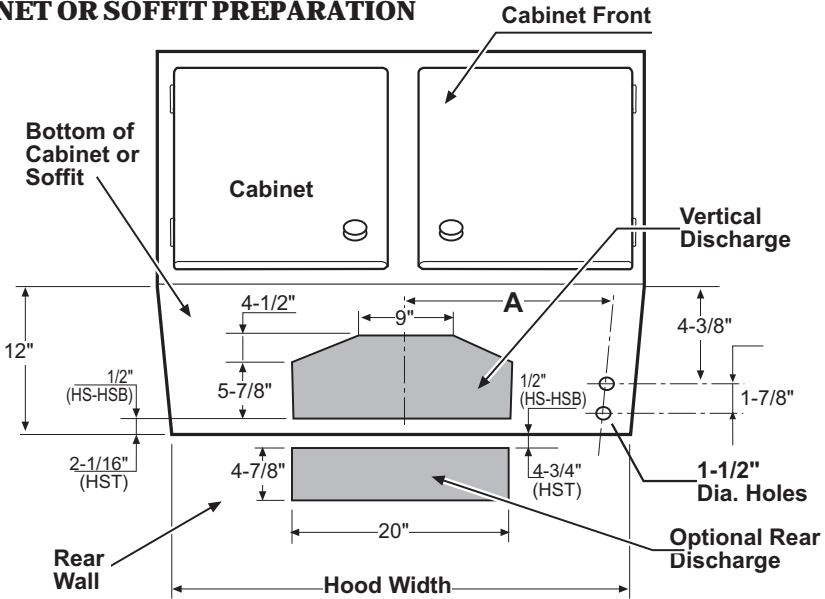

Figure 1
Provide a Round Duct having a diameter of 8" (see Figure A and B for location and Figure 1 for location on wall or cabinet bottom).
11. Discharge Direction: Horizontal discharge requires a wall cutout, as shown in Figure 1 of this manual, to provide clearance for the transition. The location of the cutout is determined by the hood installation height. For Vertical discharge, please refer to step 4, Page 10.